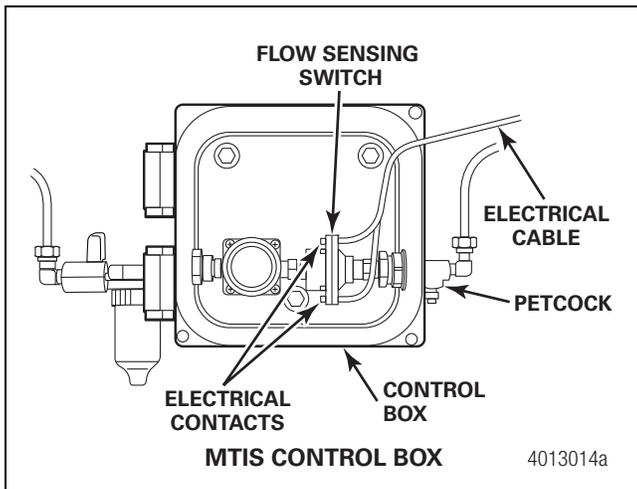
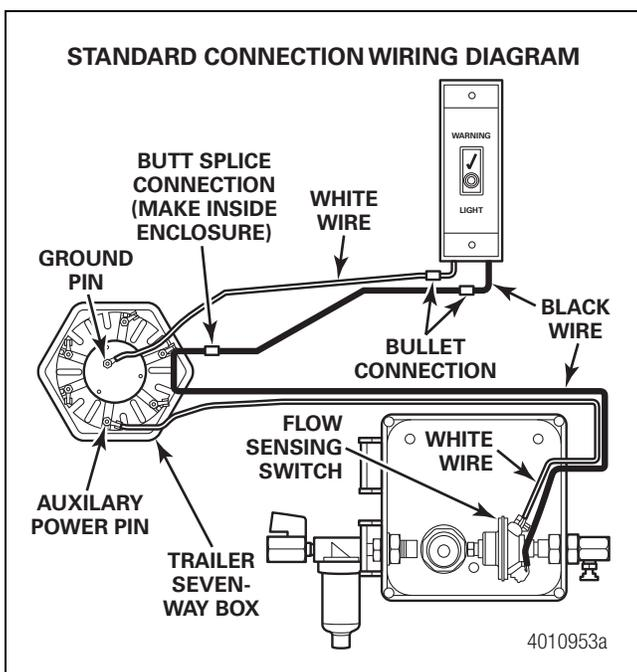

Figure 2
Figure 3
The MTIS is typically mounted on a trailer cross member or frame rail near the axles and reservoir tank. When the MTIS control box is opened, note the two electrical contacts located on the flow-sensing switch. These electrical contacts will be populated with electrical leads which power the MTIS warning lamp when a tire fill event occurs. Figure 2 and Figure 3.
4. Apply power to the trailer and examine the existing electrical leads within the MTIS control box. Determine which of the leads attached to the MTIS flow switch is the return line used to power the MTIS indicator lamp (mounted on the front of the trailer). The return line is typically the black wire, if the standard wiring is used. Figure 3. Using a volt meter, attach its negative lead to chassis ground and then use the positive lead to probe each of the switch's terminals. If the meter displays 12 volts when touching one terminal, the supply lead is identified. If the meter reads 0 volts when touching the other terminal, the return lead is identified. The return lead is the terminal/wire where the module's dual-spade lead needs to be placed.
8. Test the communication system for correct functionality. Electrically and pneumatically connect the trailer to a Meritor WABCO ABS-equipped tractor to test the tire inflation telematics alert. Ensure that the telematics system has been updated to receive the tire inflation message (consult the telematics provider). Power up both the tractor and trailer. Create a fill event by opening the MTIS petcock (Figure 2) located outside of the MTIS control box. With the petcock open, look for the telematics system to report the fill event. Some telematics systems provide a driver notification on the display, and some require verification of remote notification to the fleet maintenance manager or fleet data analyst.